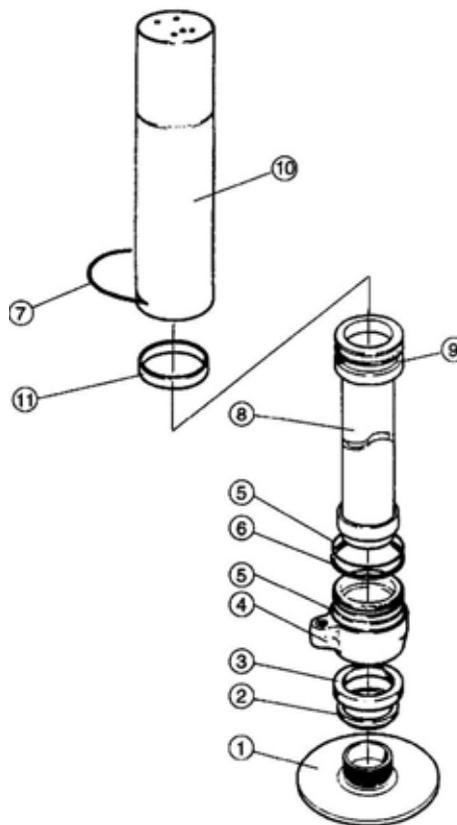

Figure 23 Outrigger Leg Cylinder
- 90. Disassembly.** To disassemble the outrigger leg cylinder, proceed as follows (Figure 23):
- Pressurise the piston rod end of the cylinder to approximately 20 MPa through the hydraulic connection in the top nut (4).
- Remove the three bolts securing the support plate extension to the support plate (1).
- c. Warm up the support plate (1) to 400 °C to 500 °C to release the Loctite bond.
- f. Clean the sealant from the locking wire slot in the outrigger leg cylinder (10).
- g. Turn the top nut (4) anticlockwise (as seen from the lower end of the outrigger leg), so that the locking wire (7) is pushed out through the slot in the outrigger cylinder.
- h. Remove the outrigger piston/rod assembly (8) with the top nut, from the cylinder.
- i. Unscrew the support plate (1) and remove the top nut.
- j. Remove and discard all the seals (2), (3), (5), (6) and (9).
- 92. Reassembly.** To reassemble the outrigger leg cylinder, proceed as follows (Figure 23):
- b. Lubricate the inside surfaces of the top nut (4) with molybdenum sulphide grease.